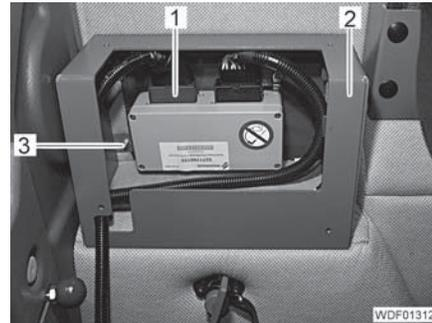

Fig. 368 Console attachment
- Unplug the connector (Fig. 368,1).
- Unscrew the 4 nuts (Fig. 368,3).
- Remove the console (Fig. 368,2).
- Position the console (Fig. 368,2) so as not to trap any cable.
- Screw the 4 nuts (Fig. 368,3) onto the threads and tighten.
- Insert the plug (Fig. 368,1).